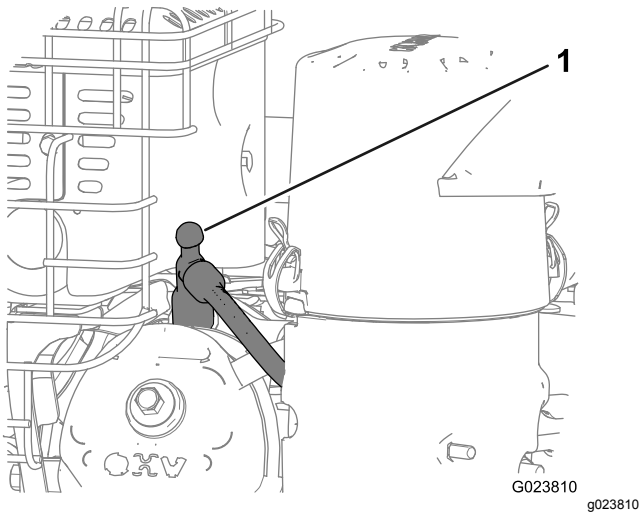

Figure 31
4. Disconnect the spark-plug wire from the spark plug and keep the wire away from the plug, to prevent accidental starting (Figure 31).